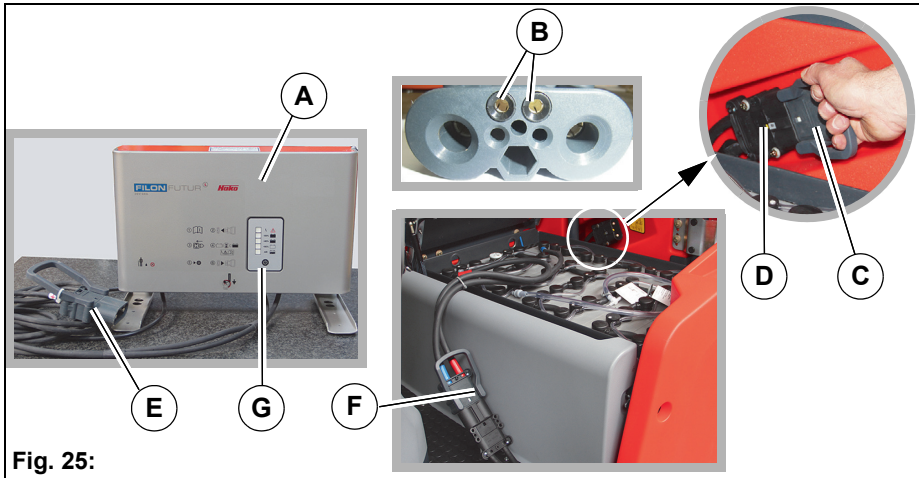

Fig. 25:
Charge the batteries with a stationary charger as, for example, shown in **Fig. 25-A**. The batteries can be charged if the battery capacity is less than 60 %.
The charger (99400110) can only charge batteries that have the PCCU circuit **Fig. 25-B**.
3. Remove the battery plug **Fig. 25-C** from the plug of the machine **Fig. 25-D**.
4. Connect the battery plug to the plug of the charger **Fig. 25-E** and position it in front of the battery trough **Fig. 25-F**.
6. The progress of the charging process is displayed in the display **Fig. 25-G** of the charger.
- Disconnect the battery plug from the plug of the charger and reconnect it to the plug of the machine **Fig. 25-D**.